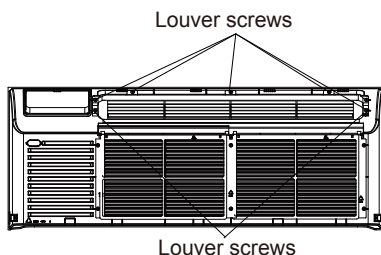

Fig.18–Backside of Front Panel
- 2.Remove louver screws that hold louver insert in place (from back side of front panel).See Fig.18.